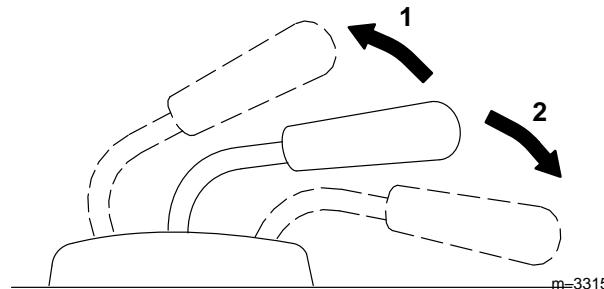

Figure 24
2. Push the lift lever DOWN to lower the attachment (Fig. 24).